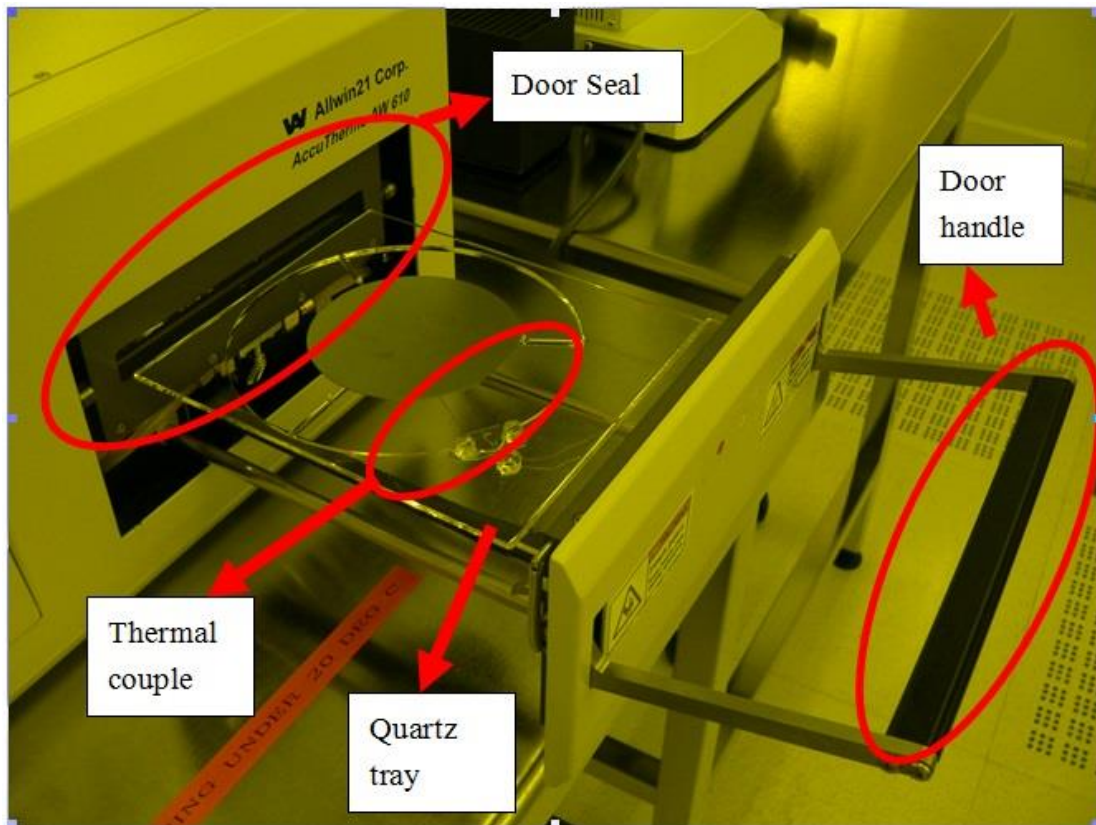

Fig.6 The loading part of AW610
6. The chamber door can be pulled or pushed smoothly (Fig.6).
7. Wafer holder (quartz tray) is clean and level (Fig.6).
8. The thermal couple (TC) is under condition and touches the bottom of wafer (Fig.6).
9. The sealing surface and the sealing rubber of the door are under good conditions without damage (Fig.6).